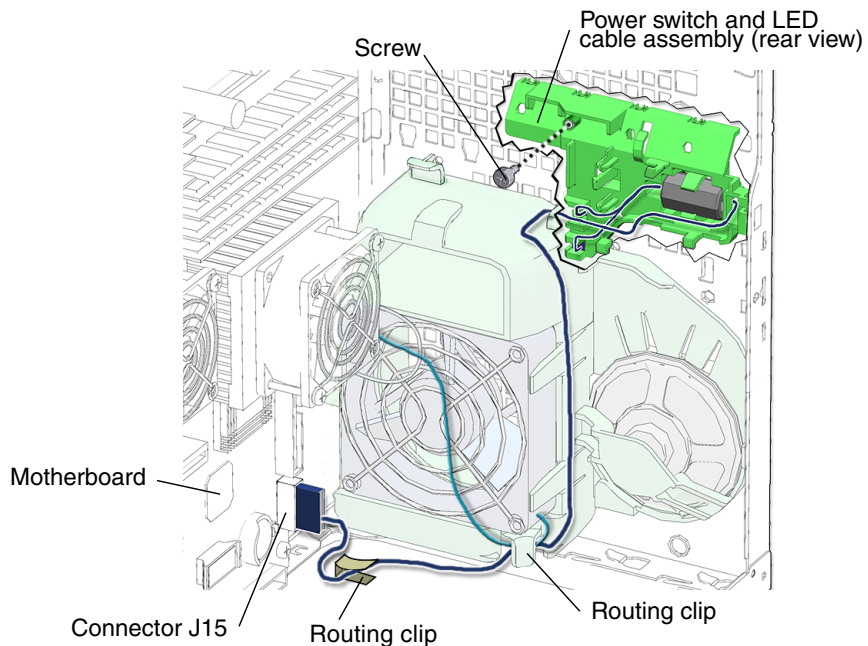

FIGURE 14-20 Disconnecting the Power Switch and LED Cable Assembly
3. Disconnect the power switch and LED cable assembly (FIGURE 14-20).